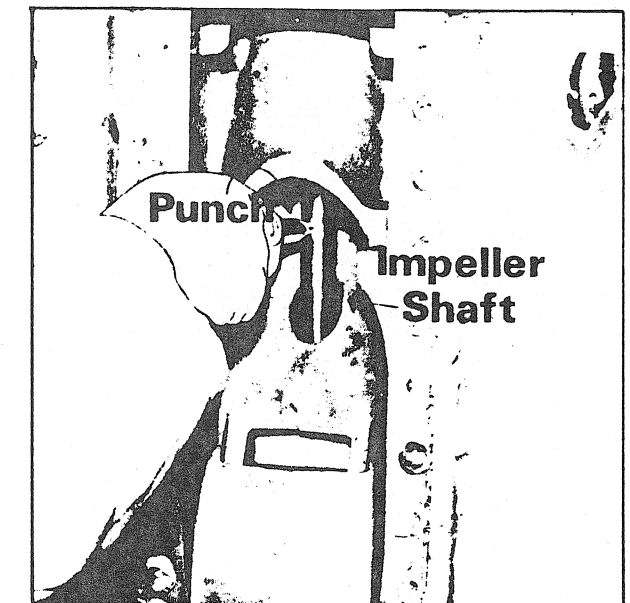

FIGURE 19
- Pull the grate intake from the suction piece then insert and secure a 1/4" dia drive punch into the impeller shaft hole (fig. 19).